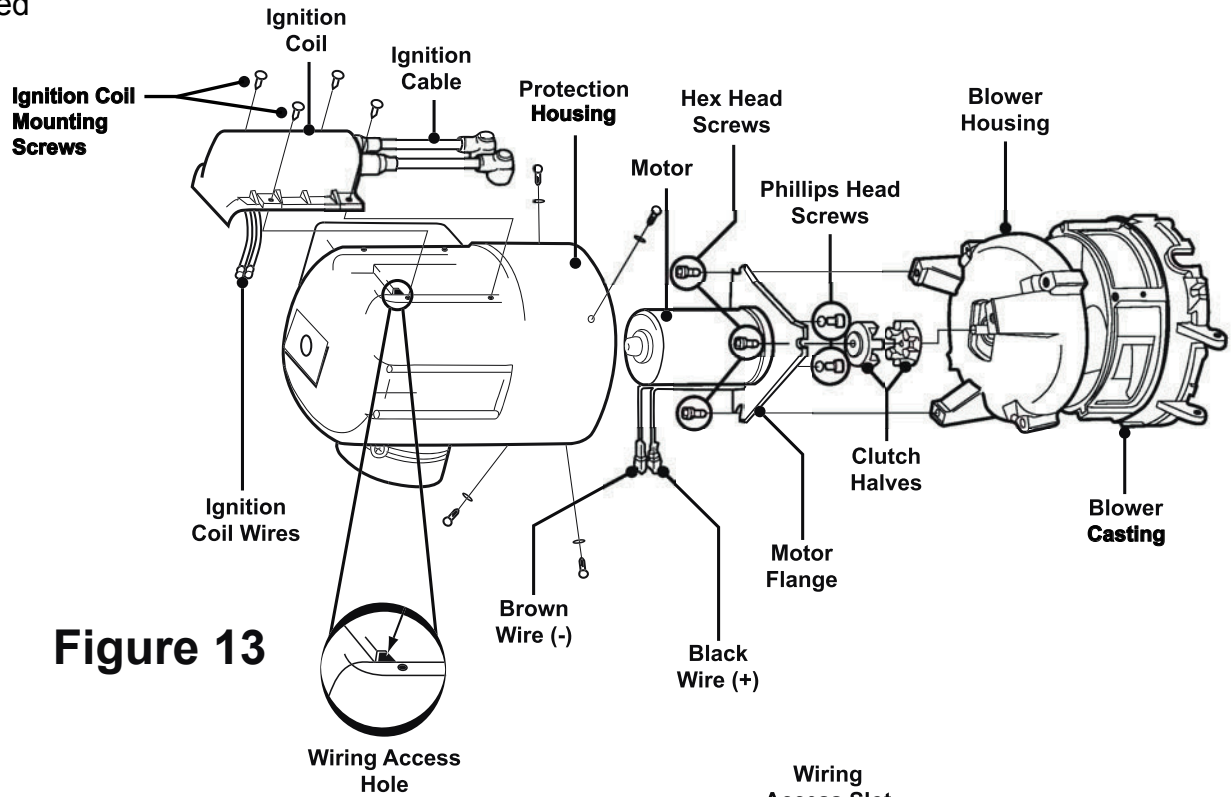
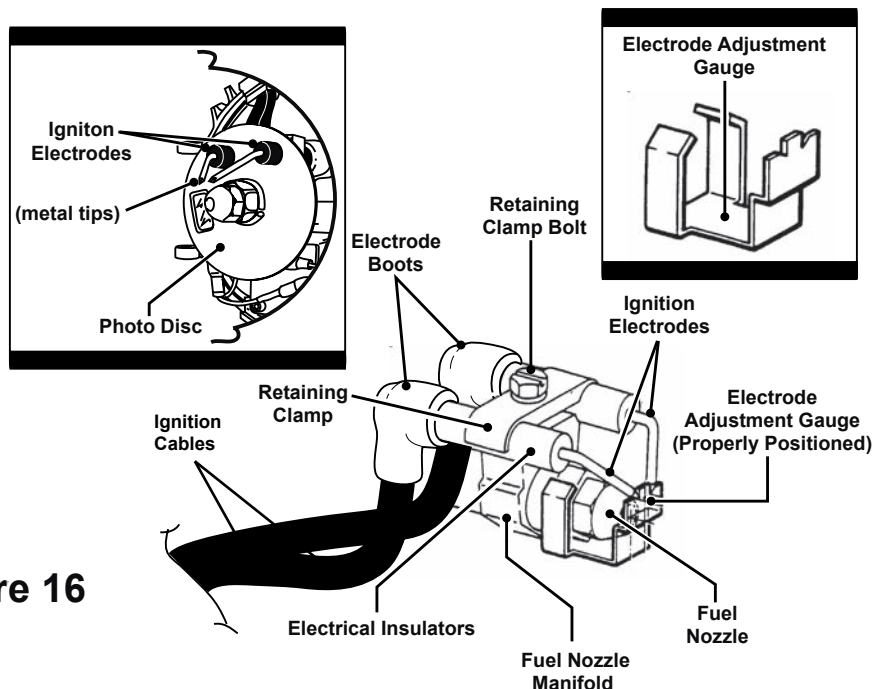
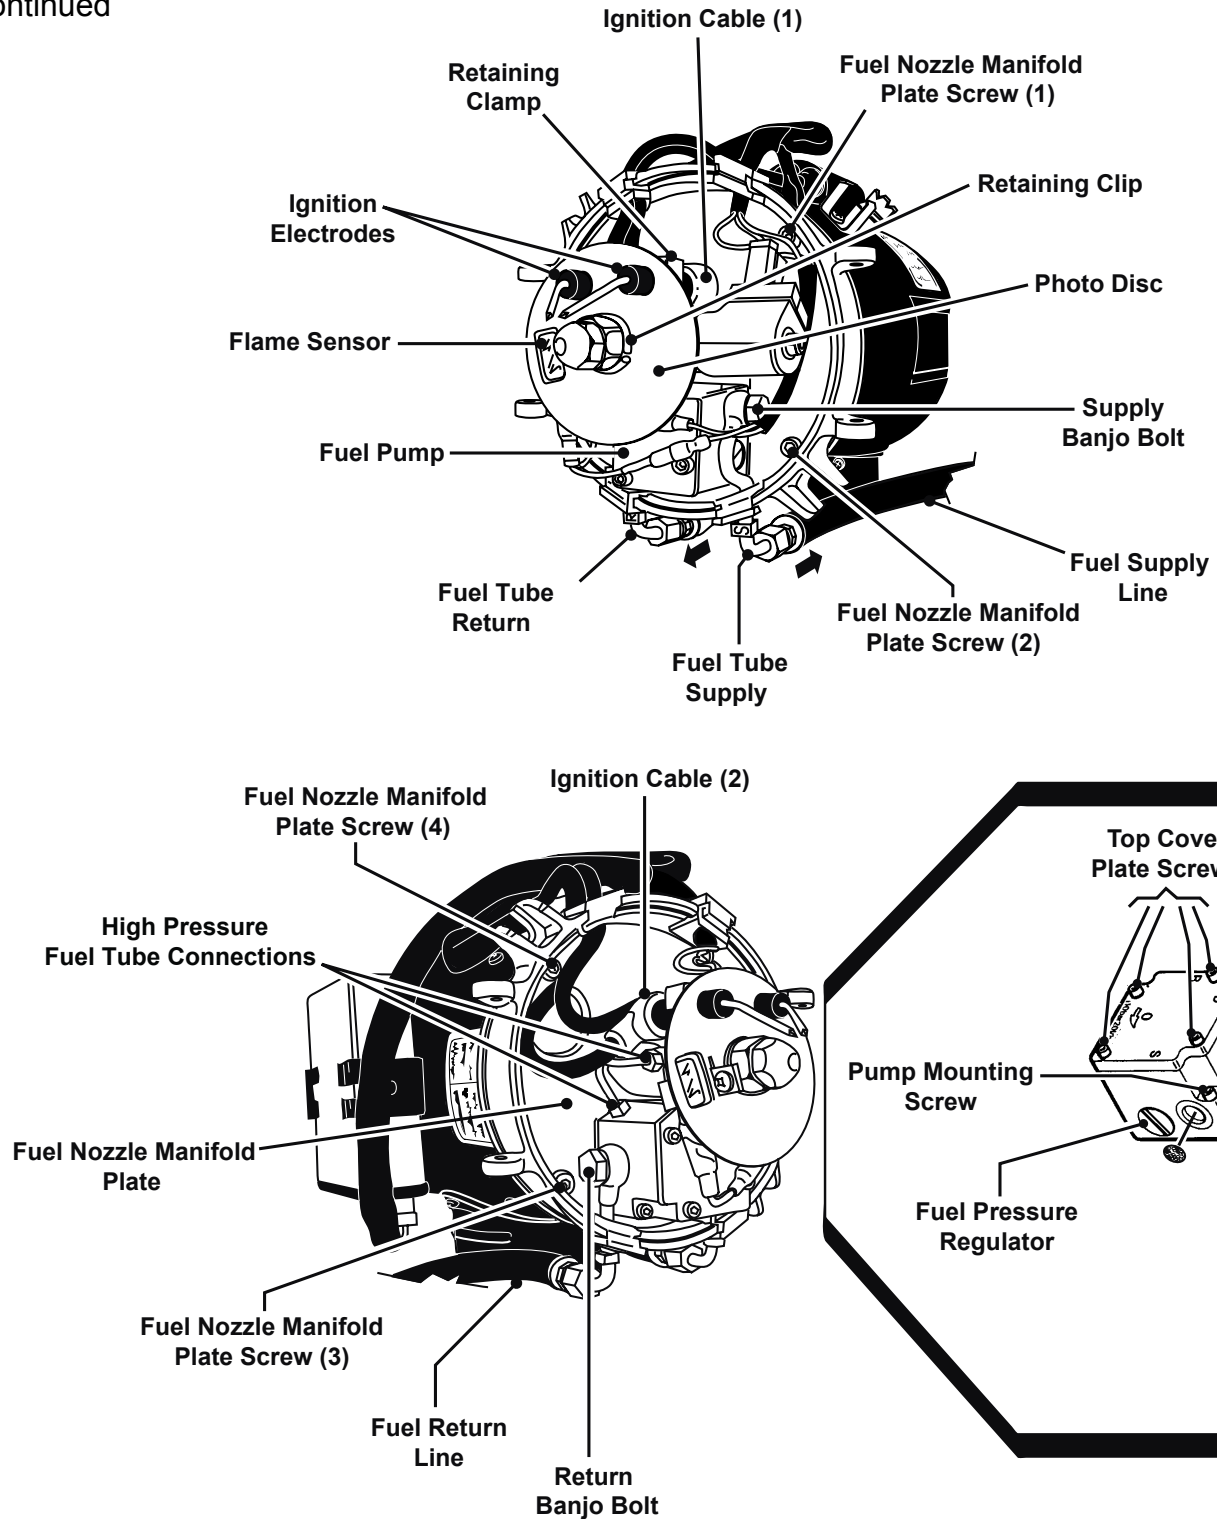

Figure 13
Figure 16
Figure 19
RPM Test: Disconnect the *Ignition Cables* from the *Ignition Electrodes*; reference Figure 16. Remove the four *Ignition Coil Screws*, which secure the *Ignition Coil* to the *Protection Housing*; reference Figure 13. Lift the *Ignition Coil* and disconnect its *wires* from the C-Plug Harness *wires* prior to removing. Remove the *Protection Housing* from the *Diesel-Burner*, allowing the *Motor and Clutch Halves* to be exposed; reference Figures 12 and 13. Place a few wraps of black electrical tape around the *Clutch Halves*, then, place a small piece of reflective tape over the black tape as illustrated in Figure 12. Disconnect the Motor's *Black (+)* and *Brown (-)* wires from the C-Plug Harnesses' *Black (+)* and *Brown (-)* wires; reference Figures 12 and 13. Connect the Motor's *wires* directly to a 12 Volt-DC power supply; reference Figure 12. Turn the power supply **ON** and use a photo-tachometer to test for a proper RPM reading; reference Figure 12. At approximately 12.5 Volts-DC, the RPM reading should be 4500 RPMs (+/- 300 RPMs). If the Motor's RPM reading is not within the above specs, the *Motor* must be replaced; reference the *Motor's Replacement Procedure* in this section. Reference Section 10 for spare part number information.
1. Remove the four *Ignition Coil Mounting Screws*, which secure the *Ignition Coil* to the *Protection Housing*; reference Figure 13. Lift the *Ignition Coil* to disconnect its wires from the C-Plug Harness wires prior to removing. Remove the *Protection Housing* from the *Diesel-Burner* to expose the *Motor* and *Clutch Halves*; reference Figures 13 and 14.
2. Remove the three *Hex Head Screws*, which secure the *Motor* and flange assembly to the *Blower Housing*; reference Figure 13. Remove the *Motor* and flange assembly along with the *Clutch Halves*; reference Figures 13 and 14. Disconnect the *Motor's Black (+)* and *Brown (-)* wires from the C-Plug Harness' wires; reference Figure 13.
3. Detach the *Motor* from the *Motor Flange* by removing the two *Phillips Head Screws*, which fasten the two parts together; reference Figure 13.
5. Connect the *Black (+)* and *Brown (-)* wires of the new *Motor* to the C-Plug Harness' *Black (+)* and *Brown (-)* wires; reference Figure 13. Feed the C-Plug Harness' *Yellow* and *Brown* wires back through the *Wiring Access Hole* in the *Protection Housing*; reference Figure 13.
6. Reinstall the *Protection Housing*. Reconnect the *Black (+)* and *Brown (-)* wires of the *Ignition Coil* to the C-Plug Harness' *Yellow (+)* and *Brown (-)* wires; reference Figure 24. Reinstall the *Ignition Coil* and secure to the *Protection Housing* with the four *Ignition Coil Mounting Screws*; reference Figure 13.
Cleaning Tips/Maintenance: Polish away any carbon deposits, which may have baked onto the metal tips of the *Ignition Electrodes* with a Scotch Brite® pad (or similar); reference Figure 16. If the Ignition Electrode's *electrical insulator* (reference Figure 16) is cracked and/or damaged, the *Ignition Electrode* must be replaced; reference the Ignition Electrode "Replacement Procedure" in this section. Reference Section 10 for spare parts information.
1. Slightly loosen the *Retaining Clamp Bolt*; reference Figure 16.
into the appropriate notches of the *Electrode Adjustment Gauge* as illustrated in Figure 16.
1. Disconnect the *Ignition Cables* from the *Ignition Electrodes* and slightly loosen the *Retaining Clamp Bolt* just enough to allow the *Ignition Electrodes* to be removed; reference Figure 16.
3. Perform Steps 2 through 4 of this section's "Adjustment Procedure" to complete the *Ignition Electrode* installation. Once Steps 2 through 4 have been performed, reconnect the *Ignition Cables* to the *Ignition Electrodes*; reference Figure 16.
Component Test: Remove both *Ignition Cables* from the *Ignition Electrodes*; reference Figure 16.
WARNING: Failure to remove the *Ignition Cables/Electrode Boots* from the *Ignition Electrodes* (reference Figure 16), will result in a **HIGH VOLTAGE** shock and/or a fire. Also, be sure to place a piece of electrical tape on the end of each Electrode Boot.
1. Disconnect the *Ignition Cables* from the *Ignition Electrodes* and loosen the *Retaining Clamp Bolt*; reference Figure 16.
2. Remove the *Retaining Clip*, which secures the *Photo Disc* in place. Gently lift the *Photo Disc* (with *Flame Sensor* attached) so that it releases from the *Fuel Nozzle Manifold* and the *Ignition Electrodes*; reference Figures 16 and 19.
4. Remove the four *Fuel Nozzle Manifold Plate Screws*, which secure the *Fuel Nozzle Manifold Plate* in place; reference Figure 19. Remove the *Fuel Nozzle Manifold Plate* by pulling on the *Fuel Nozzle Manifold* until the plate releases from the cast-aluminum *Blower Casting*; reference Figures 13 and 19.
1. Check all *Fuel Connections* for tightness (i.e., *Banjo Bolts*, *High Pressure Fuel Pipe Connections*); reference Figure 19.
WARNING: A spark will appear across the *Ignition Electrodes* (reference Figure 16) for a brief moment after the *Diesel-Burner* has been activated. **DO NOT** attempt to make any fuel pressure adjustments until the spark has disappeared. Failure to do so may result in serious bodily injury (i.e., an electrical shock).
1. Locate and disconnect the C-Plug Harness wires, which connect to the *Flame Sensor* and the *Fuel Solenoid Valve*; reference Figures 3, 15, and 18. Also, disconnect the *Ignition Cables* from the *Ignition Electrodes*; reference Figures 16 and 19.
2. Remove the *Retaining Clip*, which secures the *Photo Disc* in place; reference Figure 19. Gently lift the *Photo Disc* (with *Flame Sensor* attached) so that it releases from the *Fuel Nozzle Manifold* and the *Ignition Electrodes*; reference Figures 16 and 19.
3. Clamp off both the *Fuel Supply Line* and *Return Line* from the *Diesel-Burner Head*; reference Figures 19 and 22. Loosen the *Supply* and *Return Banjo Bolts* to remove both Fuel Tubes (with the fuel lines attached) from the *Fuel Pump*; reference Figures 19 and 22. Also, disconnect the *High Pressure Fuel Tube* from both the *Fuel Pump* and the *Fuel Nozzle Manifold*; reference Figures 19 and 22. Discard the *High Pressure Fuel Tube*, *Gasket Rings*, *Banjo Bolts*, and *Grommets*, as these replacements are provided in the new Fuel Pump Kit. Reference Section 10 for spare parts information.
1. Clamp off and remove the *Fuel Supply Line* and *Fuel Return Line* from the *Diesel-Burner Head*; reference Figures 19 and 22.
3. Remove the four *Fuel Nozzle Manifold Plate Screws*, which secure the *Fuel Nozzle Manifold Plate* in place; reference Figure 19. Remove the *Fuel Nozzle Manifold Plate* by pulling on the *Fuel Nozzle Manifold* until the plate releases from the cast-aluminum *Blower Casting*; reference Figures 13, 16, and 19.